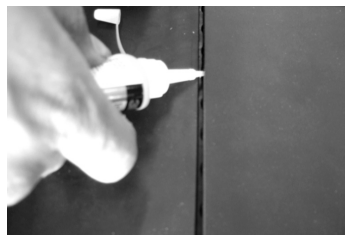

Fig. 3
2. Insert the tip of the supplied adhesive bottle into the seam, applying a small bead of adhesive along the edge of the top surface of the mat section facing you. (Figure 3)